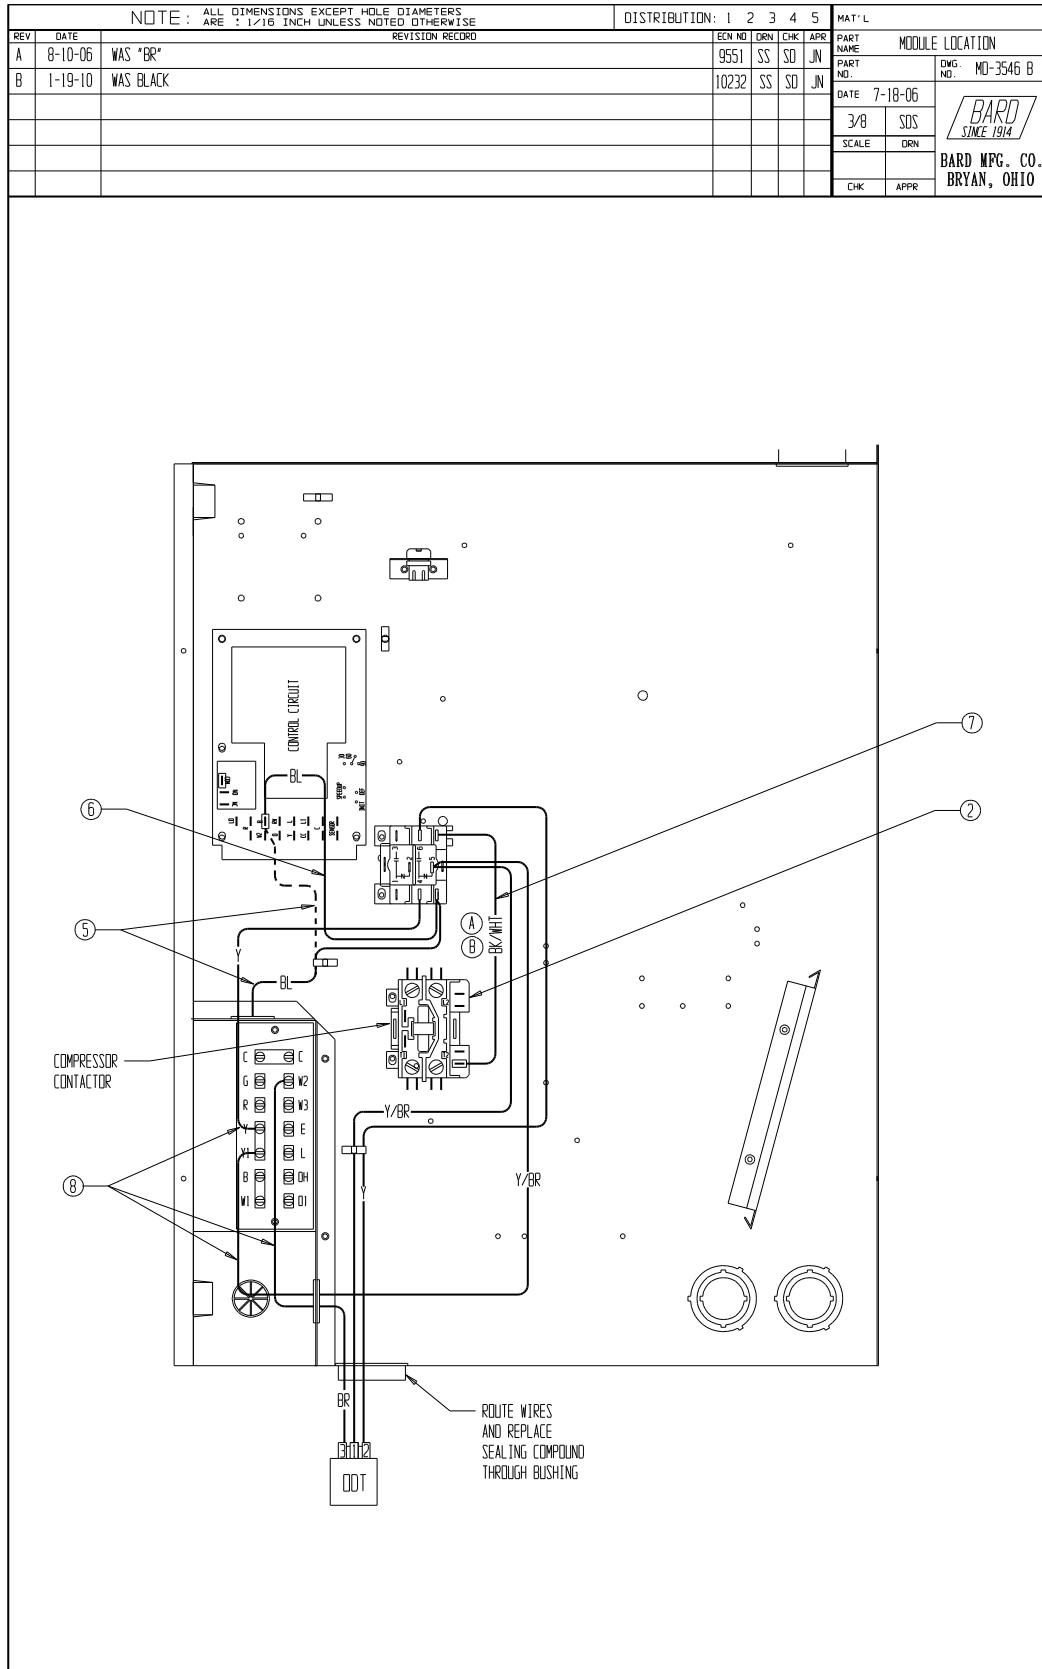

FIGURE 5
- Step 1. Mount outdoor thermostat 910-1644 in position shown in Figure 5, Step 1 to side of control panel with screws provided.
- Step 3. Route wires through bushing in side of control panel into the low voltage terminal strip area. See Figure 5.
- Step 4. Route thermostat bulb through bushing in condenser partition and mount to the fan shroud with the clamps and screws provided. See Figure 5.